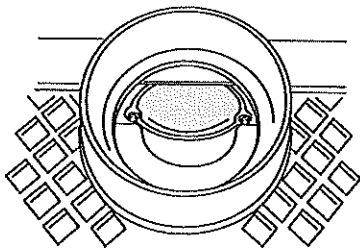

Figure 2. Remove the Rear Flue Outlet Coverplate.
3. Remove the two screws that attach the Coverplate to the rear outlet. Hold onto the Coverplate while removing the second screw so that it does not fall out. See fig. 2.